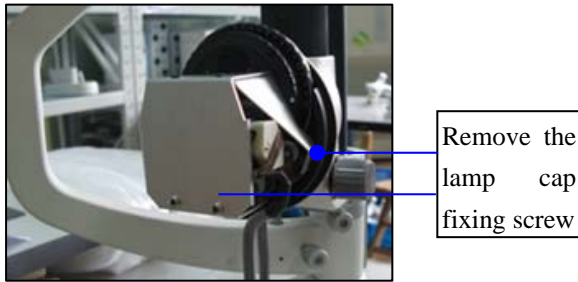

Fig.4.5.2
3. Remove the spring blade (Fig.4.5.2) to take out the original bulb and holder (Fig.4.5.3), and place the new bulb to correct position. Press the spring blade to fix the new bulb.